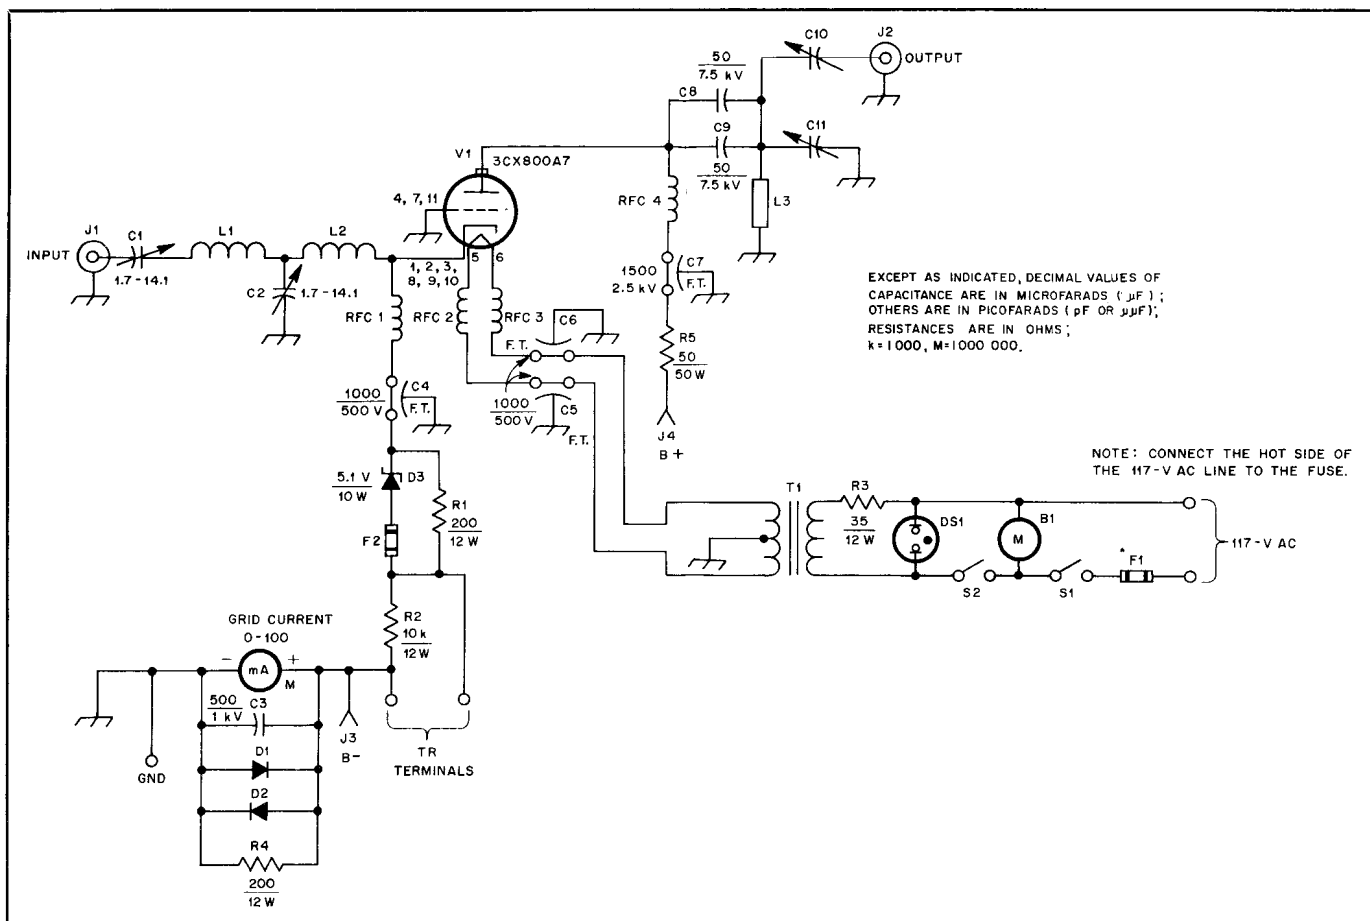
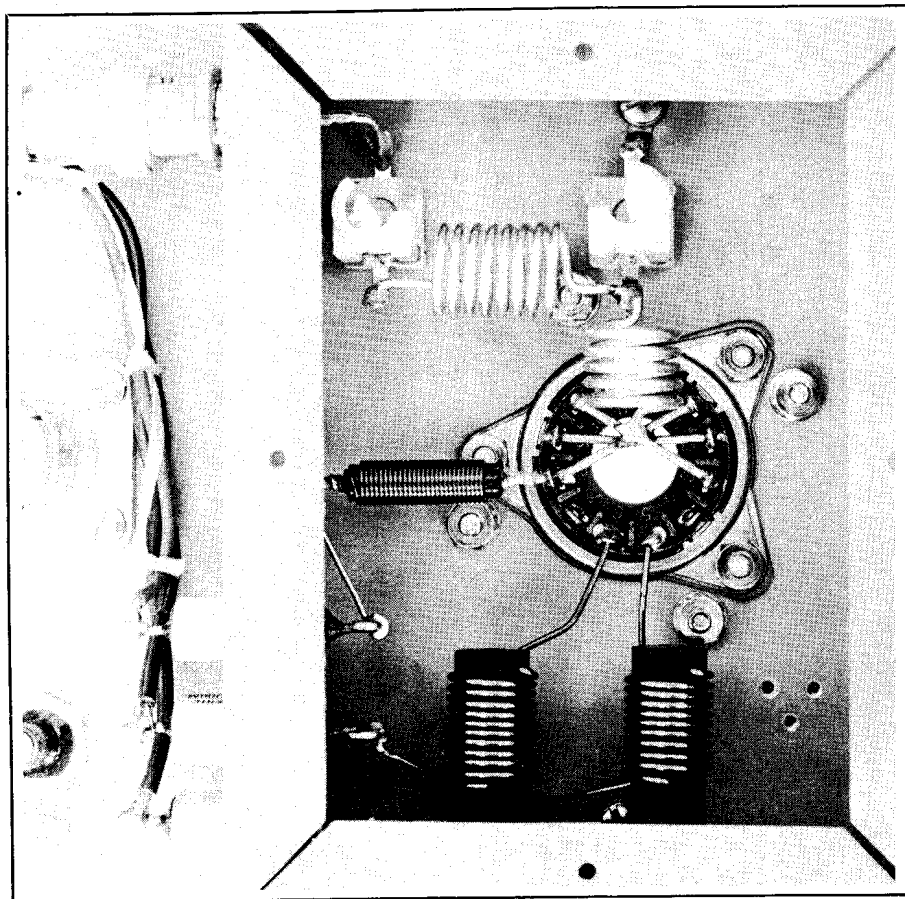

Fig. 1 — Schematic diagram of the 3CX800A7 amplifier.
Fig. 3 — Close-up of the input circuitry and tube-socket wiring. Keep all leads as short as possible.
The amplifier described here is based on a design presented by Raymond F. Rinaudo, W6ZO, in January 1972 *QST*. Most of the changes in the new amplifier (Fig. 1) are designed to accommodate the larger size of the 3CX800A7 and its attendant higher capacitances and currents. A plate-current meter is not included because my station power supply is already well metered. However, there is room on the front panel of the amplifier for a plate-current meter if another builder wishes to add one. Other changes to Rinaudo's design are minor.
The tube socket is an EIMAC SK-1900 or a Johnson part No. 124-311-100. Its center is mounted 2 inches from the end of the input box, adjacent to the mounting bracket. The tube pins and input circuit are cooled by a small amount of air admitted to the input box from the pressurized output box. Three holes, made with a no. 50 drill, provide adequate flow. These holes are spaced in a close triangle and are located diagonally across from the variable capacitors. Air exhausts through the tuning holes. Fig. 3 shows details of the input circuitry.
- 2) L₂ in the photo of Fig. 3 has 5 turns. The final version uses 6 turns. L₂ is described correctly in the parts list attached to Fig. 1. The photo in Fig. 3 just never got updated.